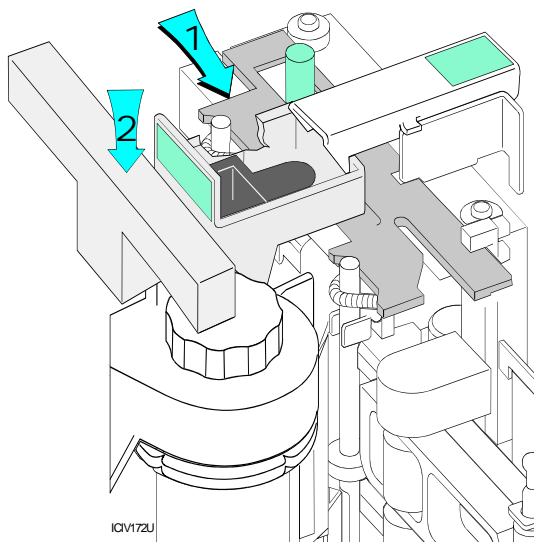

Figure 8-7: Prepare the printhead for shipping
- 4 Move the printhead to the lowered position by pushing on the end of the print station cam plate (step 1 in Figure 8-7). The white pins should rest at the end of the indentation, as shown.
- 6 Be sure to place the packaging material between the printhead and the print ribbon cartridge (step 2 in Figure 8-7).